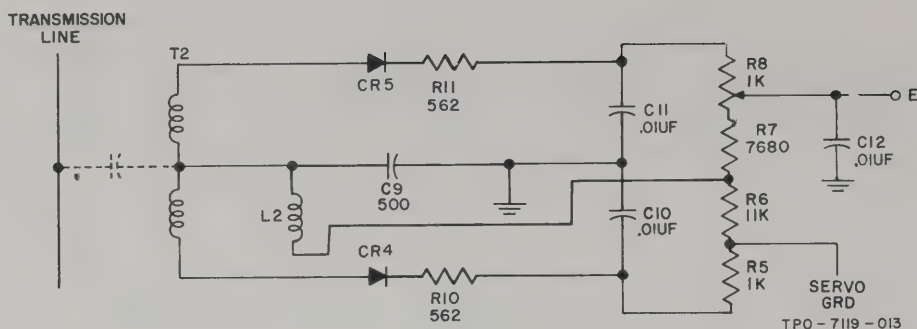

Figure 3-13. Phasing Discriminator, Simplified Schematic Diagram.
3.6.1 Phasing Discriminator (Refer to figure 3-13.)